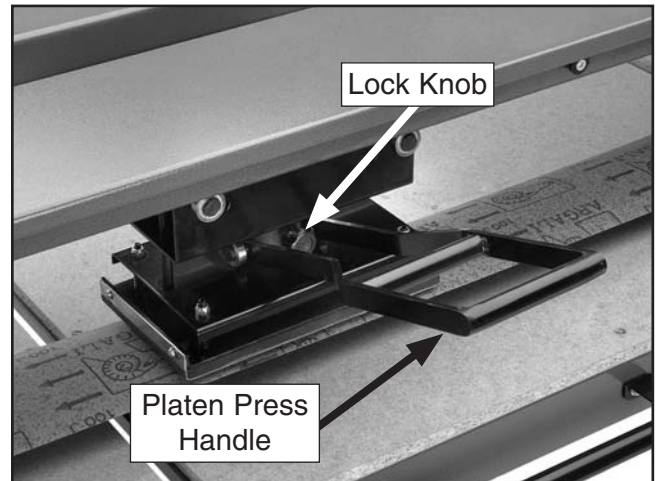

Figure 35. Platen press.
1. Loosen the lock knob shown in **Figure 35**.